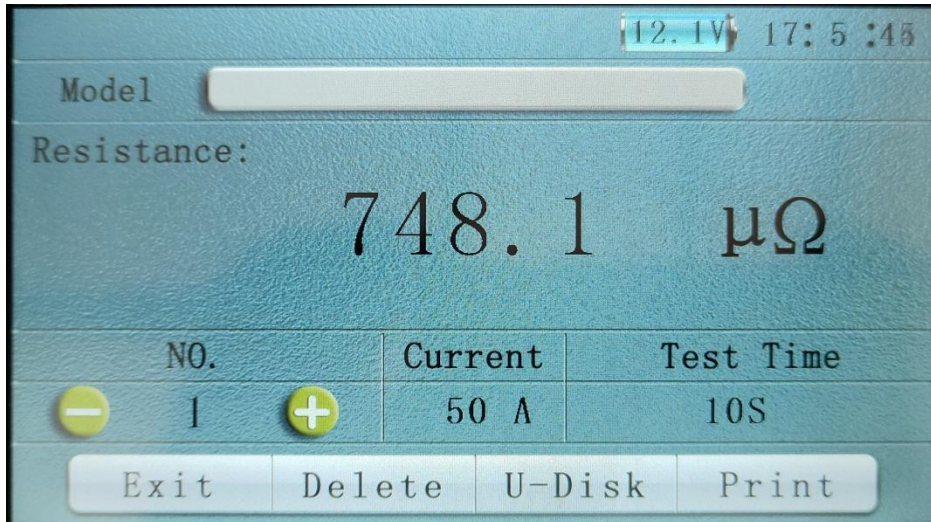

Figure 4
4. Click **Data Management** in Figure 1 to enter the data query interface, as shown in Figure 4: